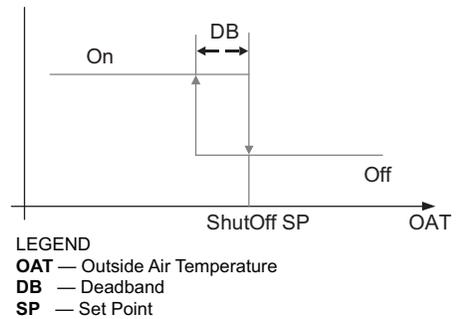

Fig. 79 – Hysteresis Settings
Hysteresis setting (DB) defaults to 2°F (–16.6°C). See Fig. 79.